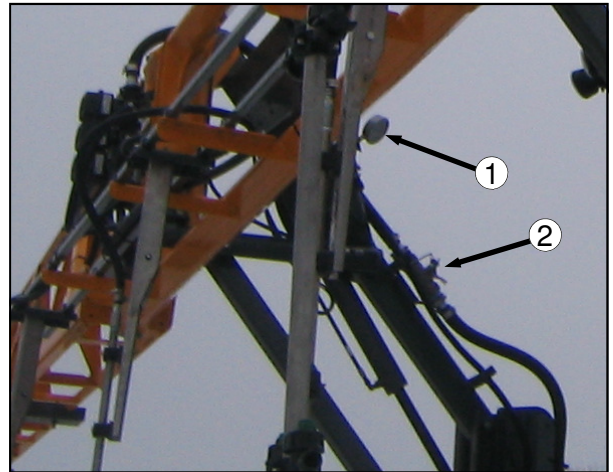

FIG. 4.30-1
SOLUTION PRESSURE GAUGE– The pressure gauge (fig. 4.30-1, item 1) gives you a constant visual display of the amount of solution being applied (measured in PSI). The pressure, as determined by the pulse width modulated control valve, will vary according to ground speed. If applying solution manually, the solution pressure gauge visually informs the operator of needed manual adjustments. The gauge also shows when there is a drop in pressure indicating that the solution tank maybe empty or there is a problem with the system.